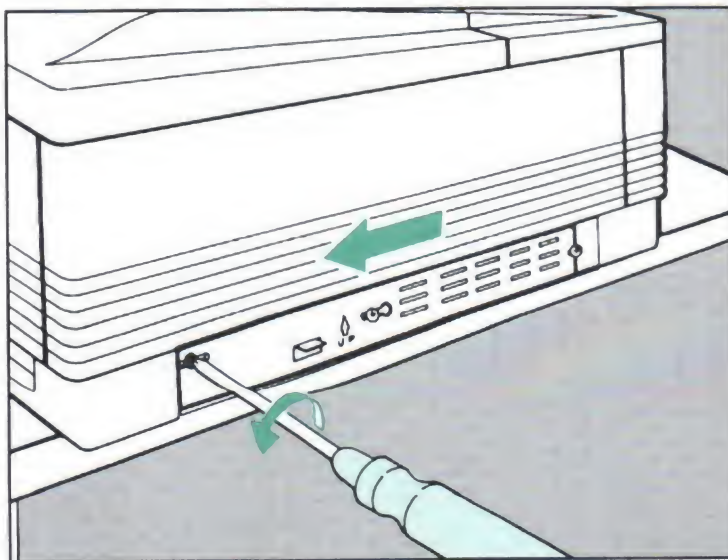

Figure E-3. Metal Cover Plate Removal
4. Loosen the three captive screws (they cannot be removed) securing the metal cover plate (see Figure E-3). Grasp the metal tab and slide the plate to the left (rear), then remove it by pulling on the tab. To discharge static electricity which could damage the board or sensitive internal printer components, maintain contact with bare sheet metal printer surfaces during installation.